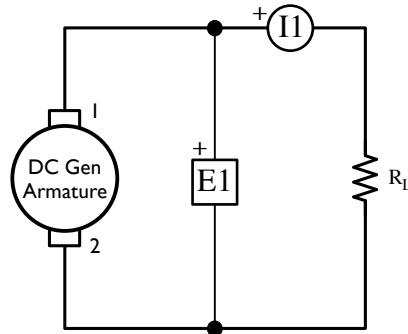

Figure 3.5: DC Generator Armature Circuit, with Load
- 24. With the power off, modify the connections to add a resistive load R_L across the generator output as shown in Figure 3.5. Use all nine resistors of the *resistive load module* connected in parallel to implement resistor R_L . Meter I1 measures the load current I_o .